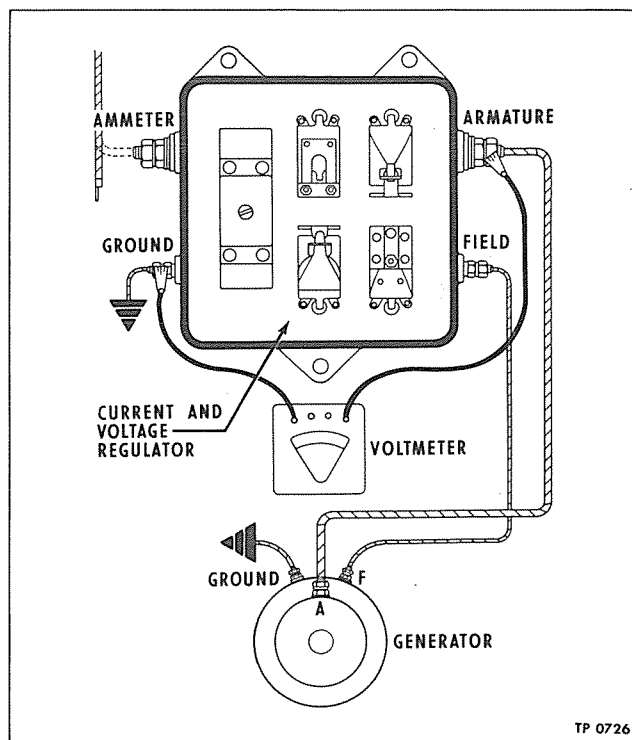

Figure 13—Meter Connections for Voltage Regulator Voltage Setting Check
1. Connect a test voltmeter between "armature" terminal and "ground" screw, and disconnect lead from "ammeter" terminal (fig. 13).